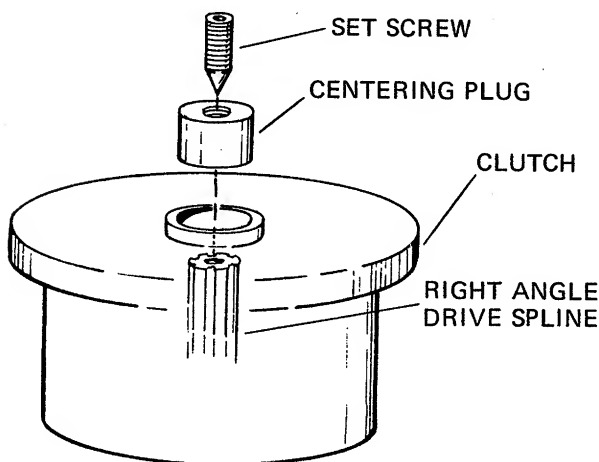

FIG. 21
It is recommended that a centering plug for reassembly of the clutch be purchased through your nearest authorized central service firm before you disassemble the clutch. This special tool is only needed if the clutch housing is removed from the clutch plate. It is not necessary when working on the throwout or right angle drive. The part number of the centering plug is 901-\_\_\_\_\_. (see Fig. 21)
23. Screw the allen set screw into the centering plug (part number 901-\_\_\_\_\_) until the cone of the set screw shows through the end of the centering plug. (see Fig. 21)